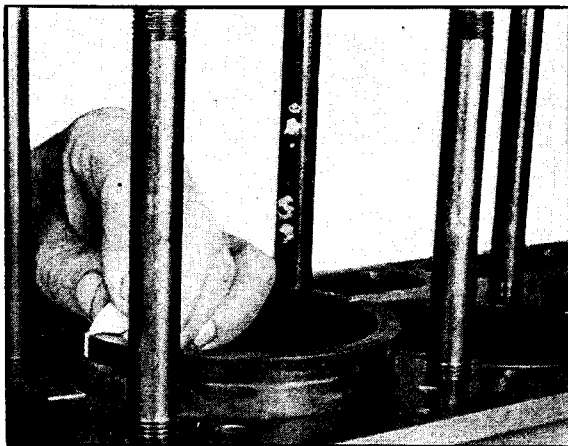

Fig. 12-26. Marking top of liner and block
3. Chalk mark the top of the liner and block before pushing the liner into place. This must be done to assure alignment with valve recesses. Fig. 12-26. Four valve engines have plain liners.